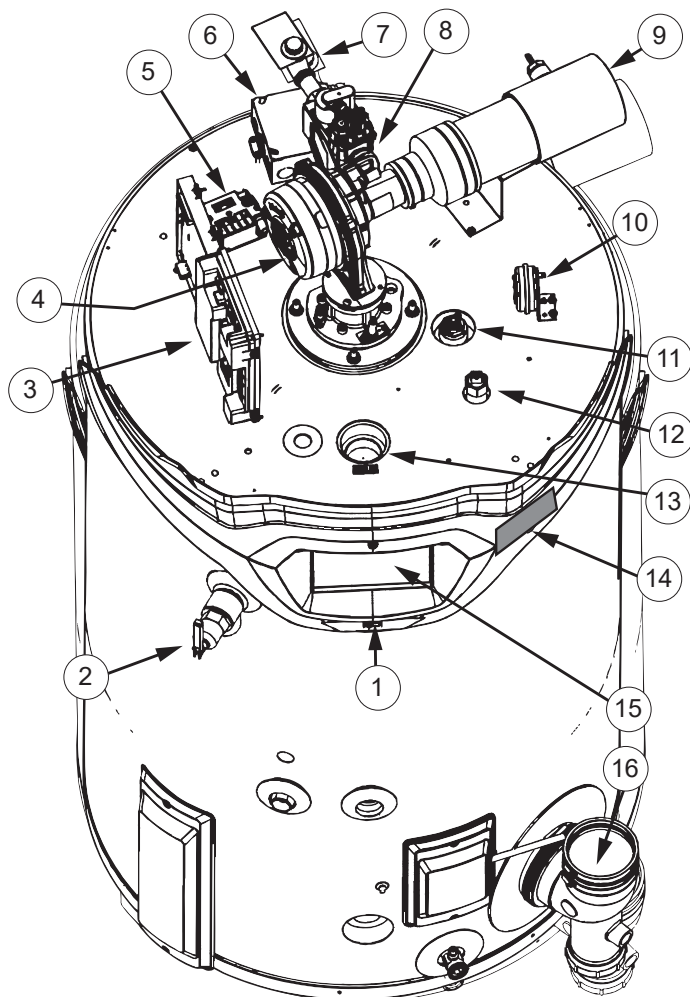
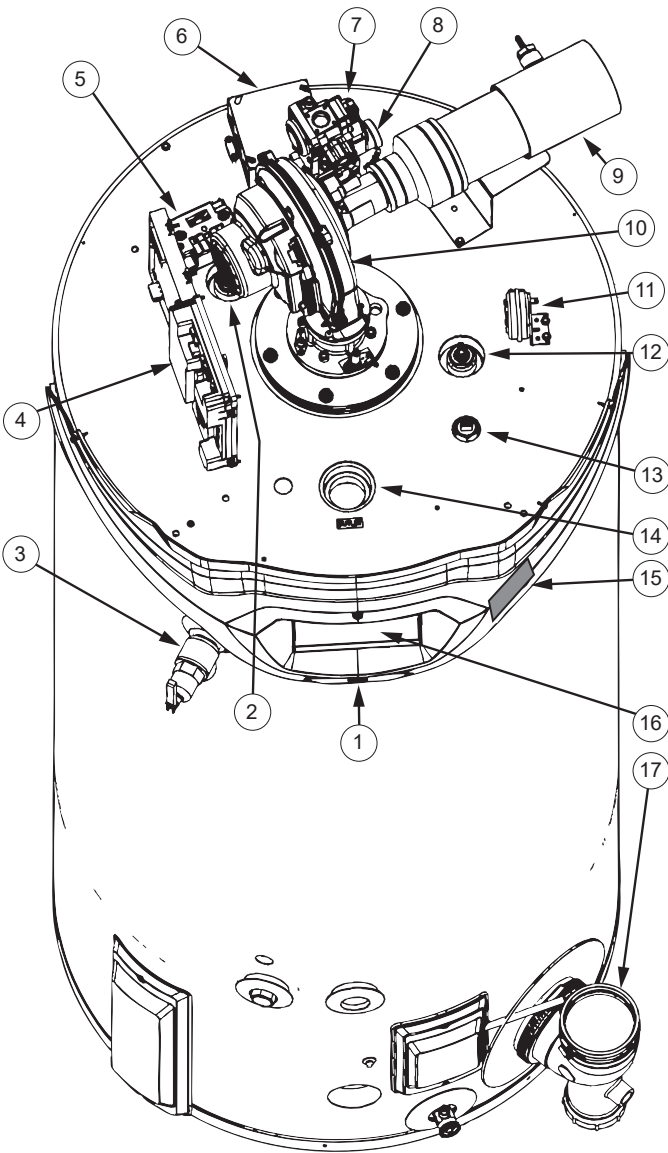
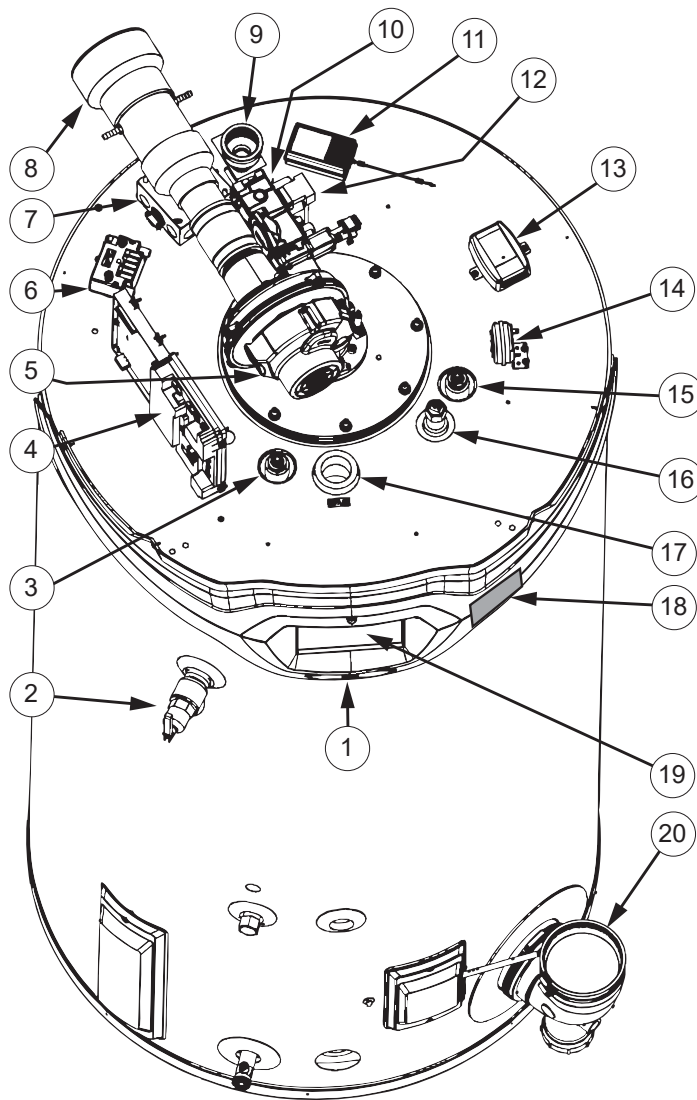

Figure 5. Top View 60 Gallon
Figure 6. Top View, 100 Gallon
Figure 7. Top View, 119 Gallon
3. Control boards enclosure. See *Figure 5*, *Figure 6* and *Figure 7* for description.
1. Control boards enclosure. See *Figure 5*, *Figure 6* and *Figure 7* for description.